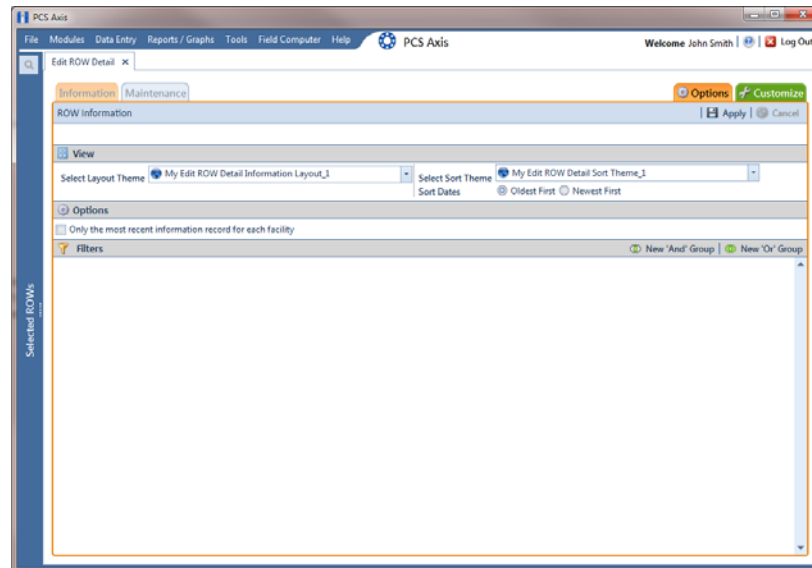

Figure 3-28. Options
- a Click the **Options** tab  to open the options page (Figure 3-28, page 115).